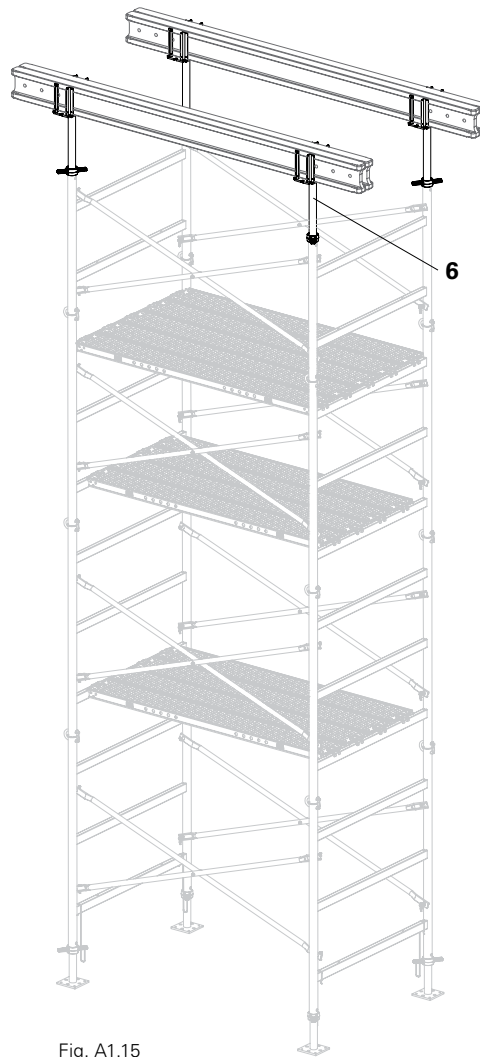

Fig. A1.15
1. Insert all Cross Head Spindles TR 48-75/47 (6) into the frame of the top level and spindle out to required length. (Fig. A1.15)